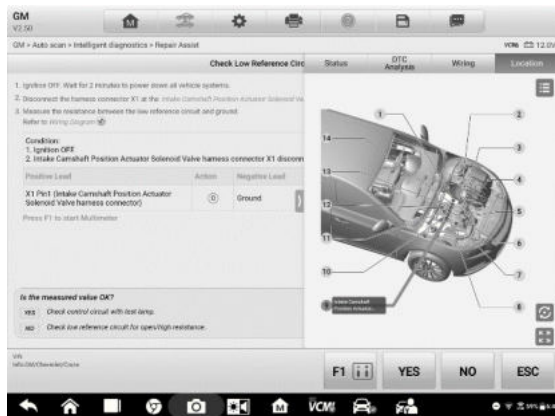

Figure 5-24 Sample Repair Assist Screen 5
5. In some cases, it is necessary to check the circuits. Take **Figure 5-24** for example, tap the first **Link icon**  to open the *Location Diagram*, and it will show the location of the component *Intake Camshaft Position Actuator Solenoid Valve* in the car.